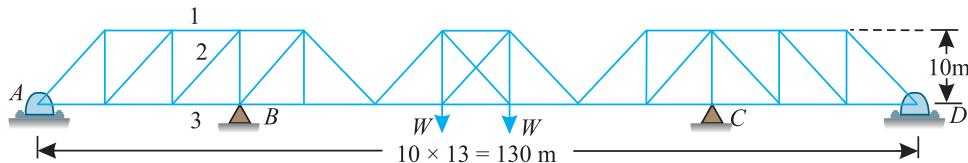

Fig. 13.54.
**Example 13.17.** Figure 13.54 shows a bridge truss of 130 m span subjected to two point loads.